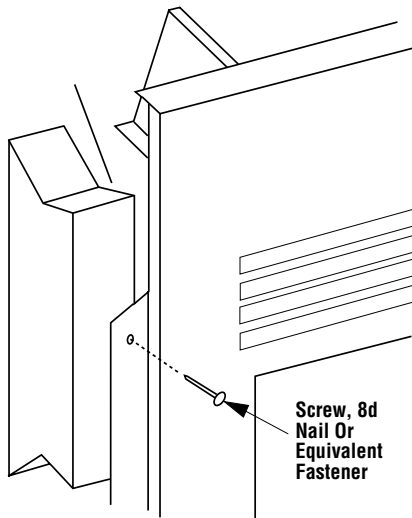

Figure 16
Step 4. Fireplace should be secured to side framing members using the full length nailing tabs at the top and bottom of the fireplace front face. Use screws, 8d nails or equivalent fasteners (Figure 16). This manufactured home model is also provided with floor brackets used to secure the fireplace to the floor to prevent shifting in transit.